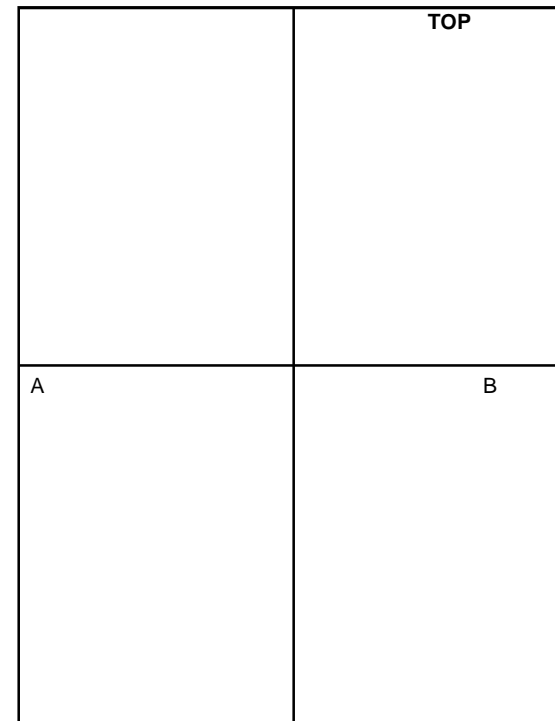

Figure 1 Creating a Test Pattern Original
1. To create a Cross Line Test Pattern, use a plain white sheet of 8.5x11"/A4 paper and fold the sheet precisely in half lengthwise and width wise. Then with a straight edge draw a straight line in the lengthwise crease and a straight line in the width wise crease. Label the top for orientation purposes. (Figure 1)
6. Fold the copy in half parallel to the short edge (A to B in Figure 1).